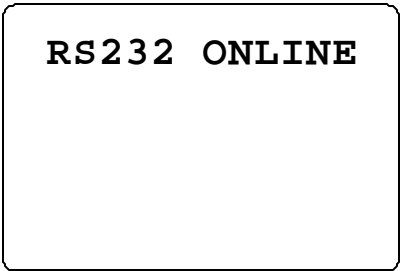

Figure 9-5
- 5) After online, the picture of LCR Meter will be switched to “RS232 ONLINE”, please refer to Figure 9-5.